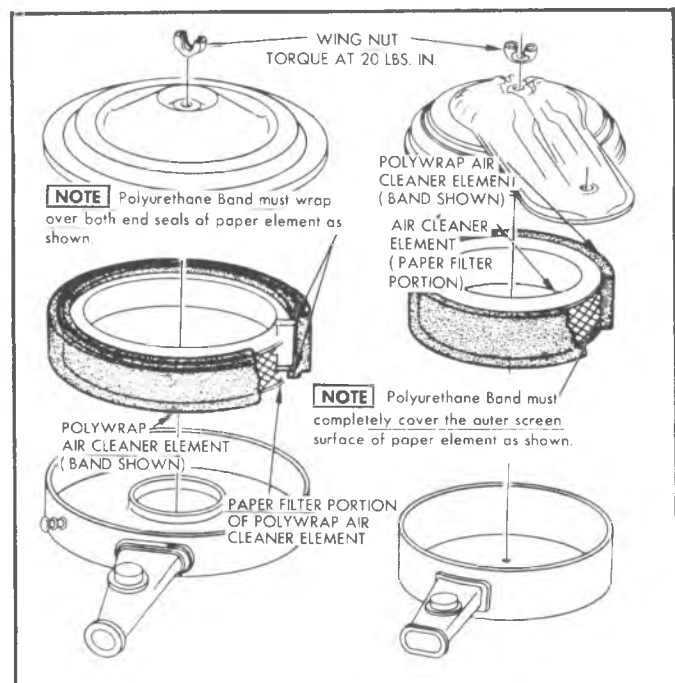

Fig. 69—Polywrap Air Cleaner Element
3. Remove polywrap band from paper element and discard element (fig. 69).